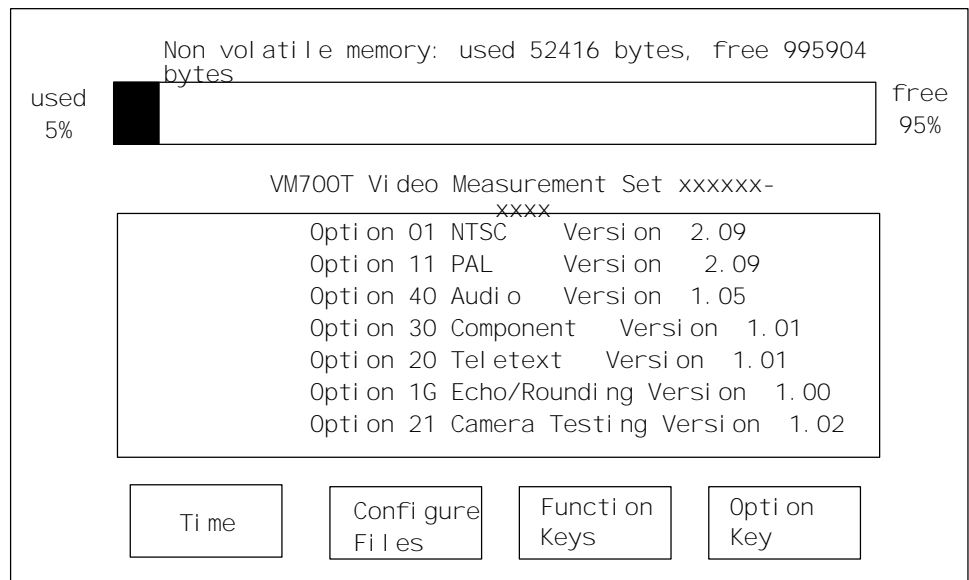

Figure C-1: Typical main Configure menu
1. Press the **Configure** front panel button to display the menu shown in Figure C-1.